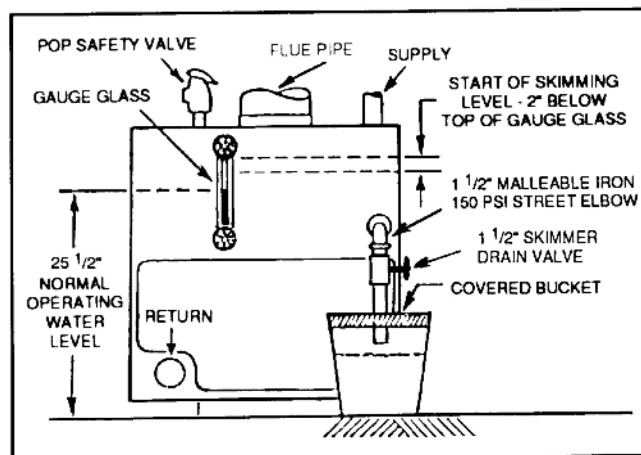

Figure 9.
- Turn off electrical power supply to boiler. Allow boiler to cool down and steam pressure to reduce to zero before removing skimmer tapping plug. Check for steam pressure by testing the pop safety valve. Keep your hands and all parts of your body away from the discharge end of the safety valve. Drain boiler down one to two inches below skimmer tapping. The water might be hot. Remove skimmer plug slowly and carefully install a 150 psi malleable iron 1-1/2" NPT street elbow, a 1-1/2" NPT skimmer valve and length of pipe and place a bucket underneath the open end of the pipe. Cover bucket with a piece of cloth. (See figure 9)
- Repeat (D) above until all film is skimmed off and the water settles to a normal movement. Add make up fresh water to the boiler as described in (D) above, during the blow-off operation, to maintain the proper skimming water level in the vessel. Empty bucket frequently in order to see the difference in water cleanliness.
- When surging has stopped and water is clean, and no film can be seen floating in the bucket, shut off boiler, drain down to level of skimmer tapping, remove valve, plug skimmer tapping and refill the boiler to 24-1/2" water level. After 15 minute operation, readjust level to normal operating level of 25-1/2" from bottom of boiler (see figure 9). Check the pop safety valve for proper operation. Check the low water cut-off operation, see below.